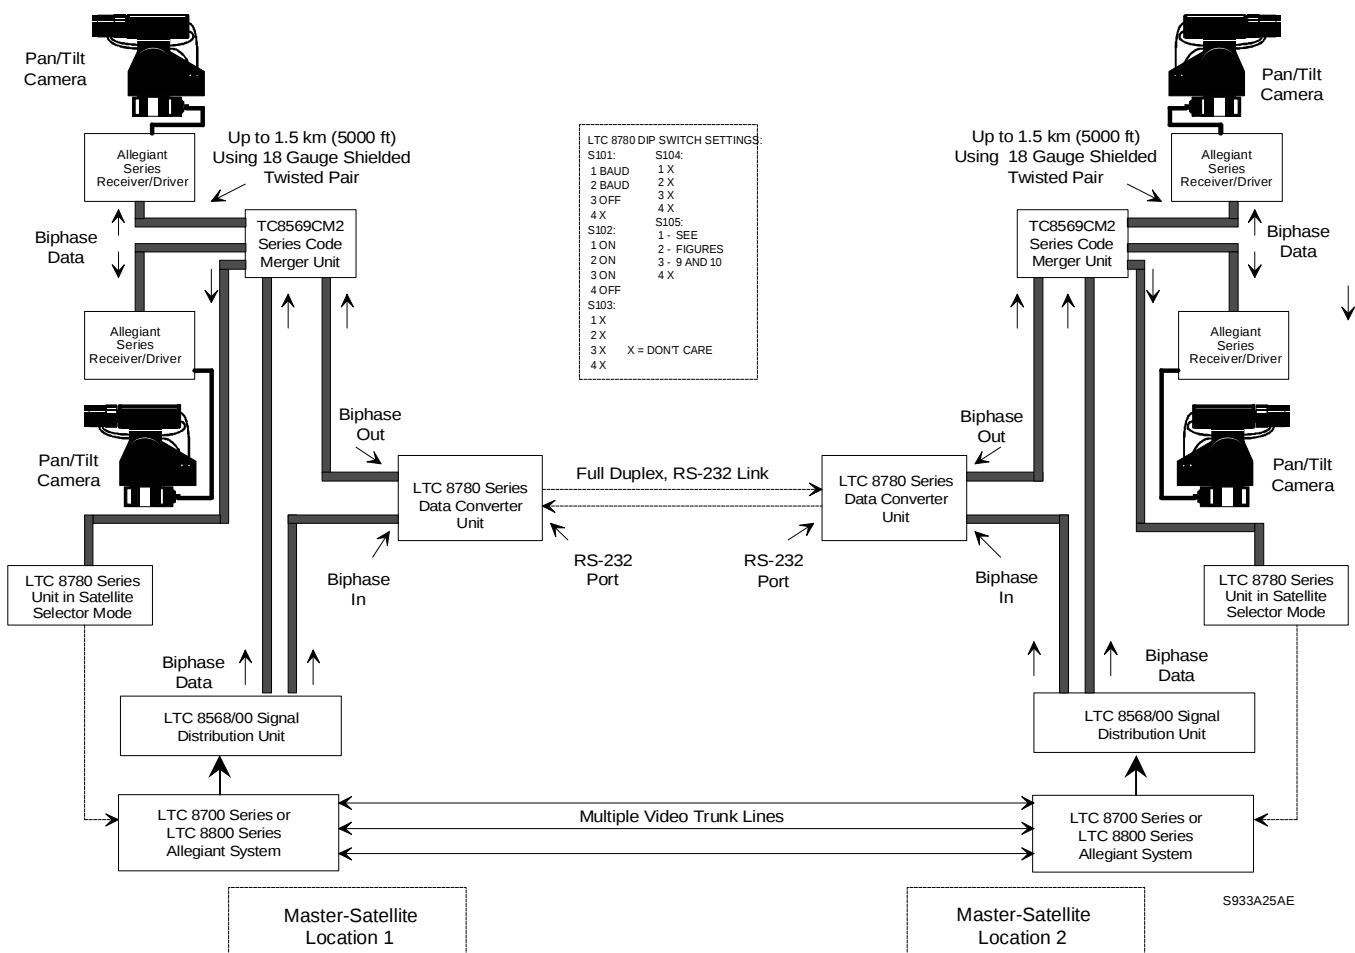

Figure 8: LTC 8780 Series Used in Dual Master-Satellite Configuration
5. DUAL MASTER-SATELLITE CONFIGURATION (**Figure 8**)